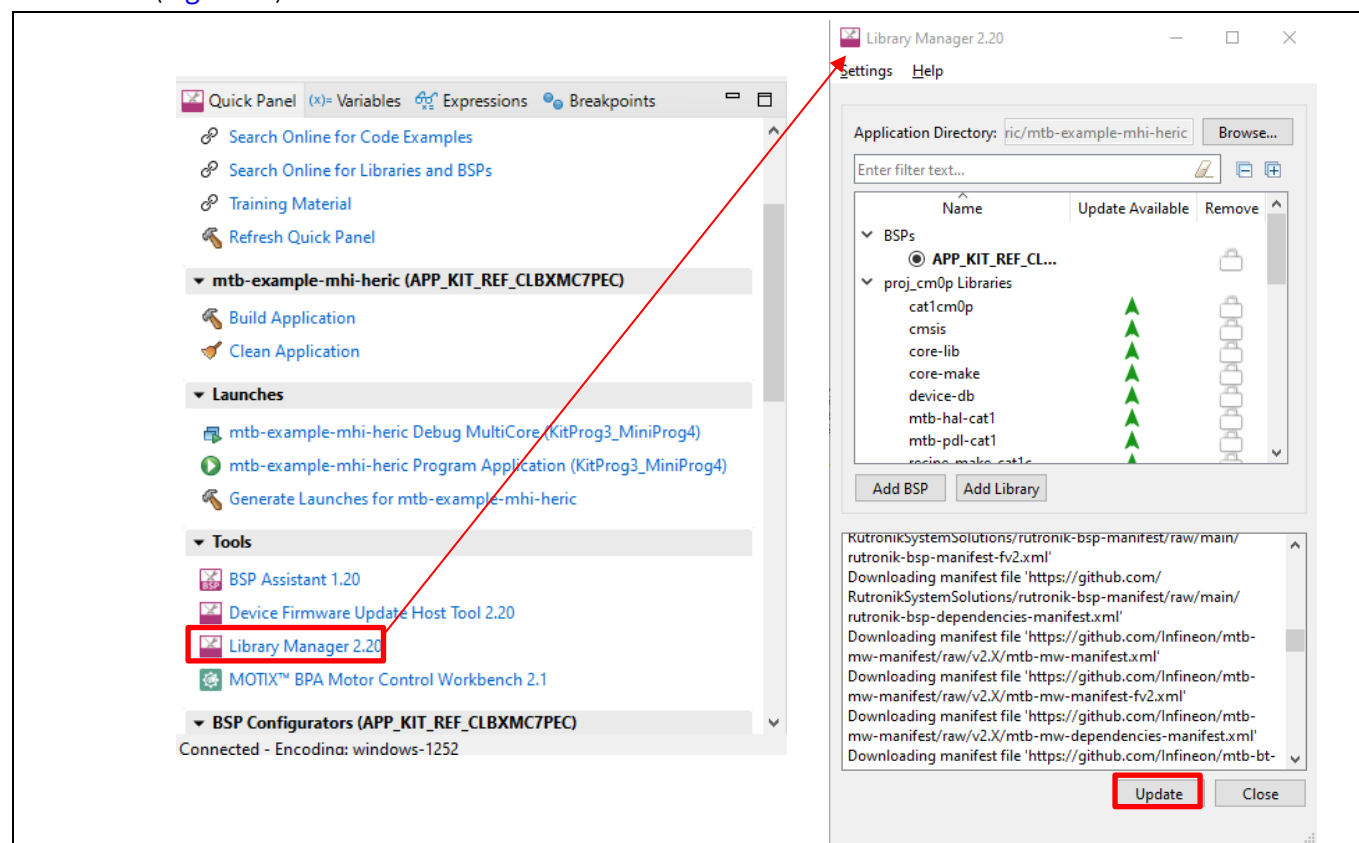

Figure 34 ModusToolbox™ - Library Manager 2.20
5. Select **Library Manager** under **Tools** in the left navigation menu and select **Update** in the Library Manager window (Figure 34)